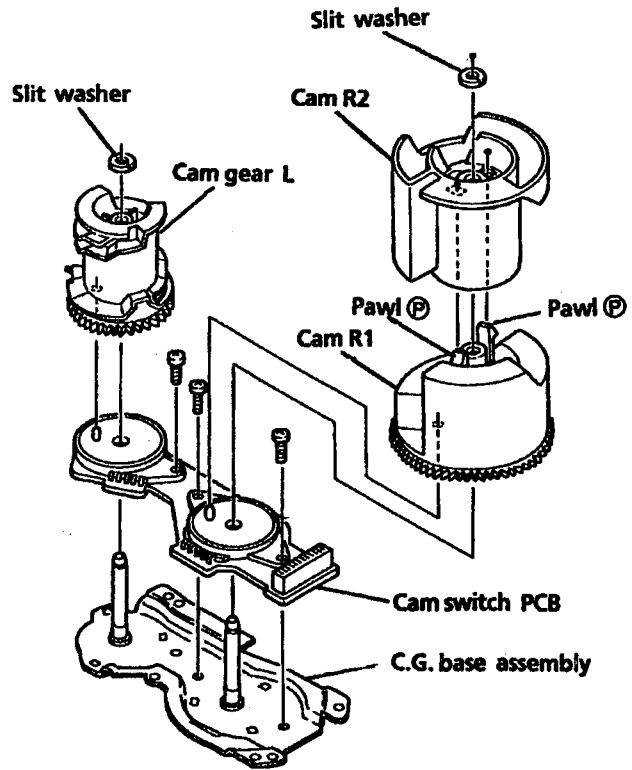

Fig. 41
(See Fig. 41.)
(27) Removal of C.G base ass'y
Remove 3 screws ⑥ securing the C.G. base ass'y. (See Fig. 41 and 42.)